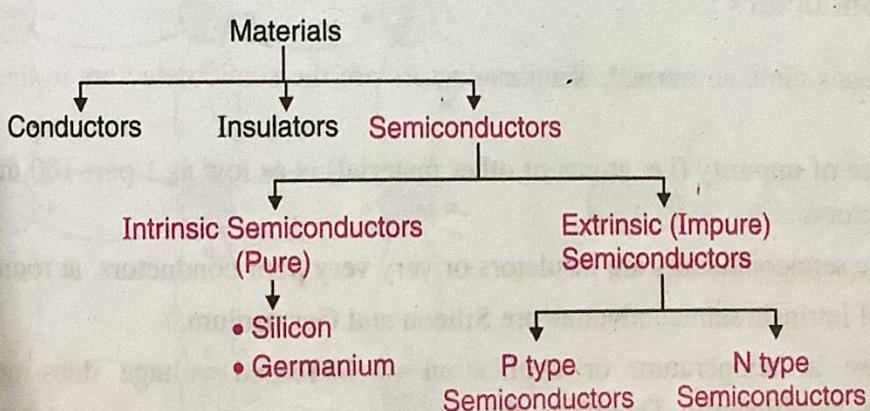

Fig. 10.2.1 : Classification of materials
- Fig. 10.2.1 shows the classification of materials.